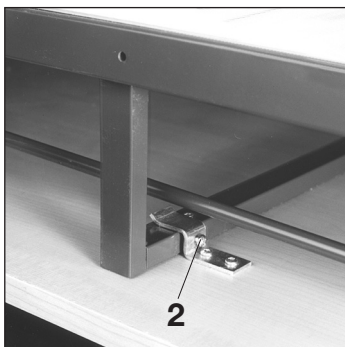

Fig. 12
- Screw the raised-head screws M4 x 12 mm **2** into the two upper front-panel brackets, **Fig. 12**.